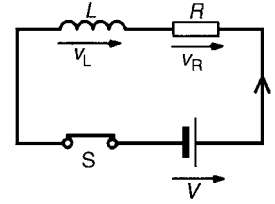

Figure 18.10
- (a) The circuit diagram for a series connected $L - R$ circuit is shown in Fig. 18.10. When switch S is